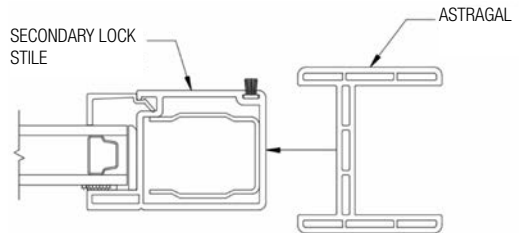
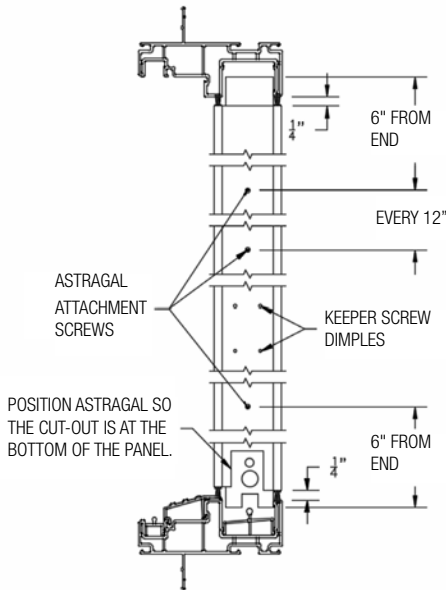

FIG. 20
FIG. 21
- E) Apply the astragal to the secondary stile. The secondary stile will fit into the shallow pocket on the astragal (FIG. 20). Center the astragal vertically in opening. There should be an approximate ¼" gap between the astragal and the head & sill. The square cut-out on the astragal will go towards the bottom of the panel near the roller adjustment screw (FIG. 21).
- F) Attach the astragal to the secondary stile using screws from earlier. Apply the screws in the center of the profile 6" from each end and approximately 12" apart along the full length of the astragal (FIG 21).